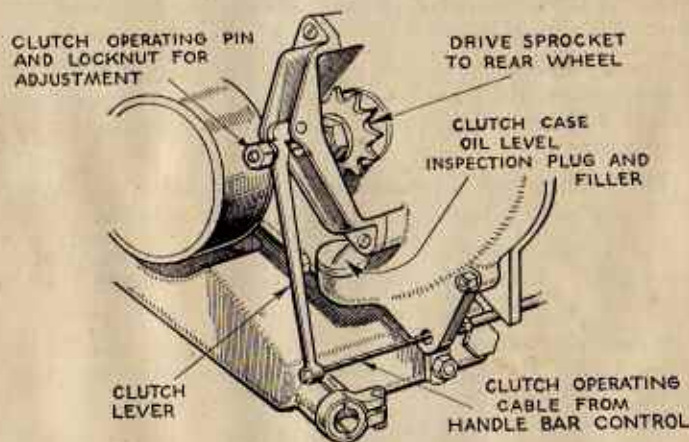

FIG. 19.
**Curing a Slipping Clutch.**—It will be necessary at times to adjust the clutch. If, on opening the throttle, the engine speed increases whilst the road speed does not, it is likely that the clutch is slipping, owing to the slack on the operating cable being taken up. This can be remedied by adjusting the small screw at the hand-lever end of the cable. The screw should be adjusted until there is one-sixteenth of an inch slack movement on the cable, before it operates the clutch rod on the housing (see Fig. 19).